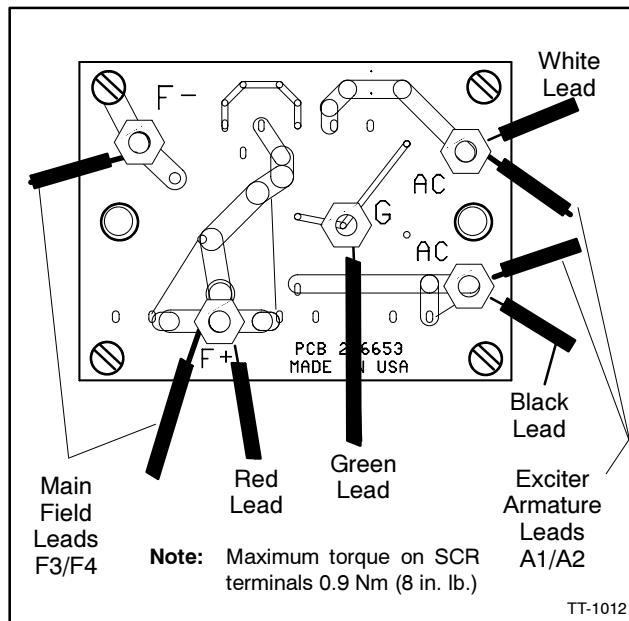

Figure 4 SCR Assembly Wiring
25. Make electrical connections to SCR assembly. When there is a choice between which lead to connect, choose the lead which does not stress the lead or terminal. See Figure 4 for wiring schematic.
Note: Place one elastic stop nut (X-101-24) on each stud. Torque all nuts to 0.9 Nm (8 in. lb.) maximum. Lead terminals must not contact any circuit board solder connections or any other studs or terminals when SCR assembly stud nuts are tightened. See Figure 4 for recommended lead positions. Use cable ties (X-468-3) as necessary to secure leads.